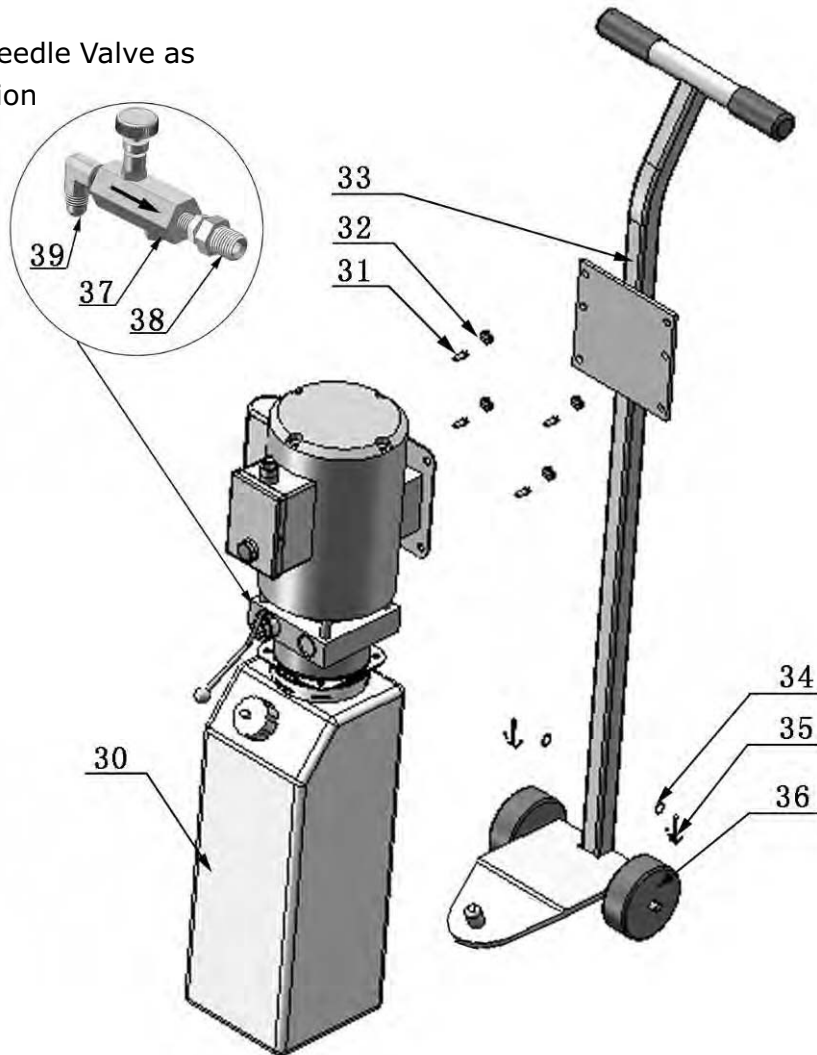

Fig. 6
B. Install hydraulic power unit and needle valve (See Fig. 6)